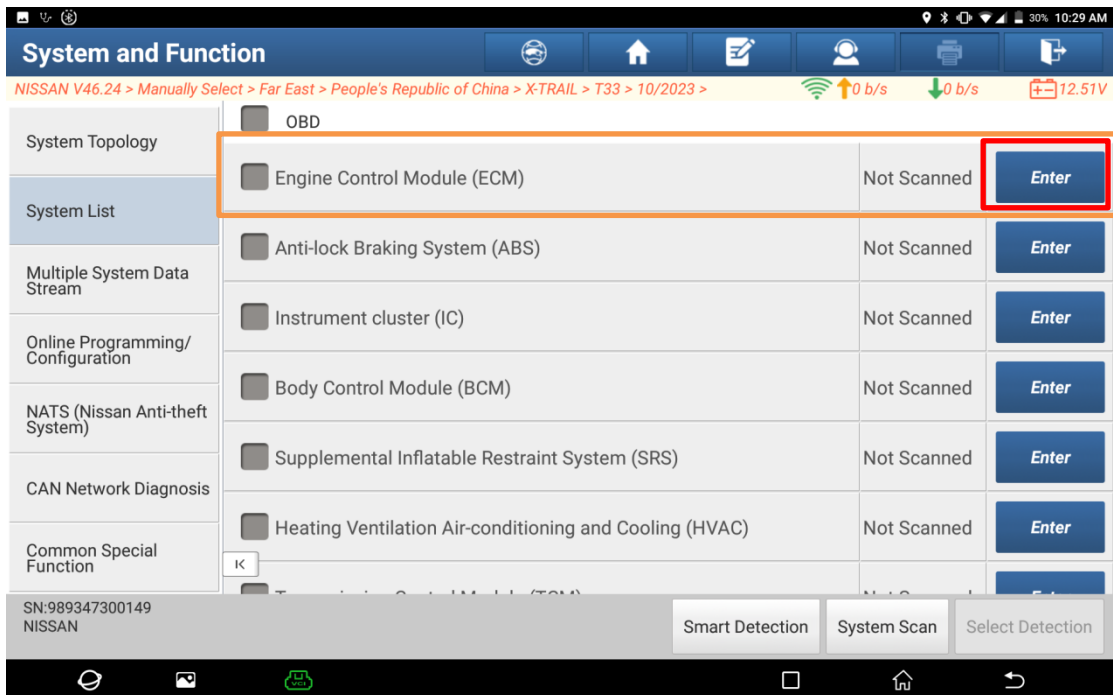
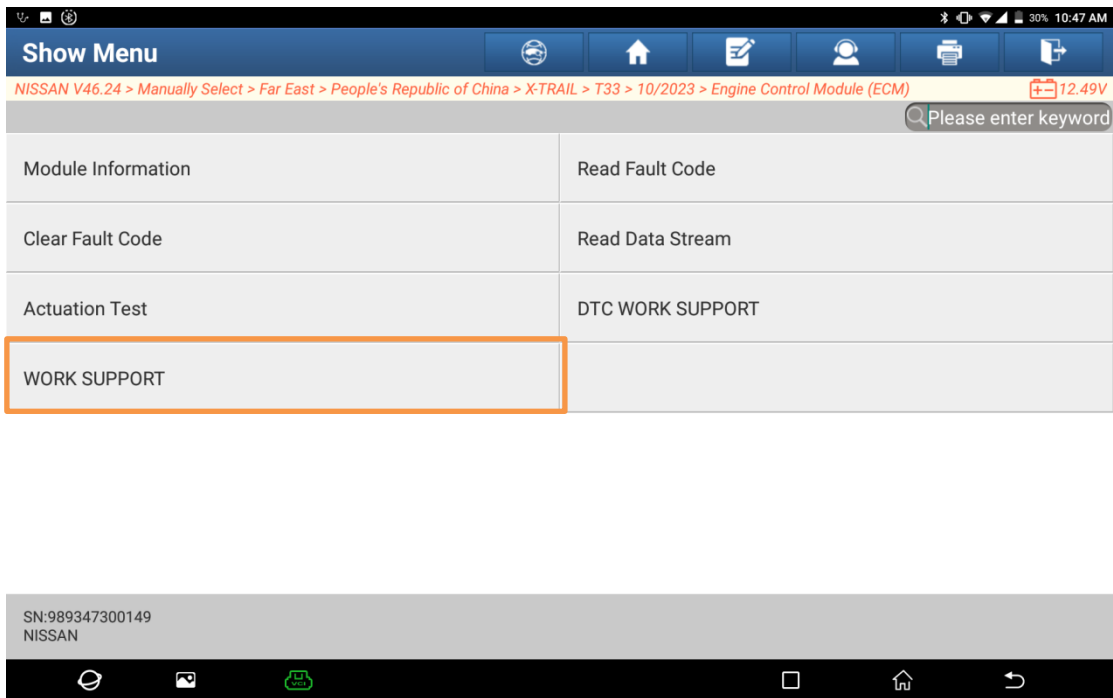

Figure 8
Figure 9
- On the system list menu interface (Figure 8), click [Enter] on the right of [Engine Control Module (ECM)] to enter the ECM function menu interface (Figure 9).